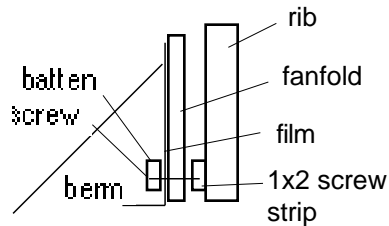

Fig. 8. Roof film edge connection
- m. Screw a treated 1x2 batten over the film into the 1x2 screw strip previously screwed or lashed to the ribs, Step 5f (Fig. 8). Space screws close enough for good friction clamping of the film between the two 1x2's. This anchors the film and fanfold for the full length of each side.
**5m. Batten options (Fig. 8).** On hangars over about 30' span, longitudinal racking in strong winds is reduced by adding a second batten on each side as high as one can easily reach from a step stool. Screw this batten through the fanfold before adding the roof film. this connection adds structural continuity to the rib-stiffened shell.